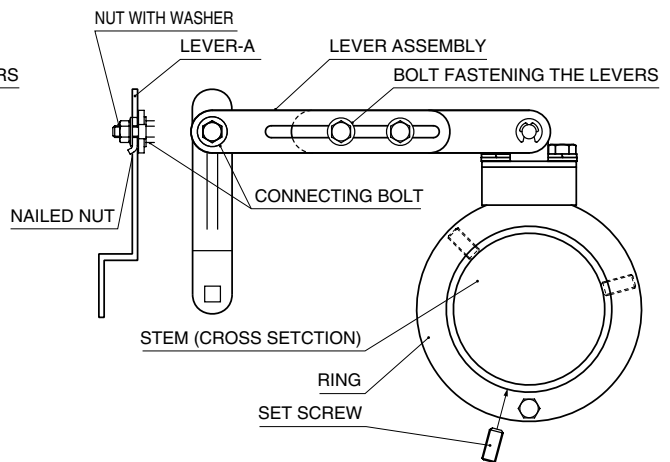

Figure 2. ATTACHING THE VOLK-C
**•VOLK-C (See Figure 2 below.)**